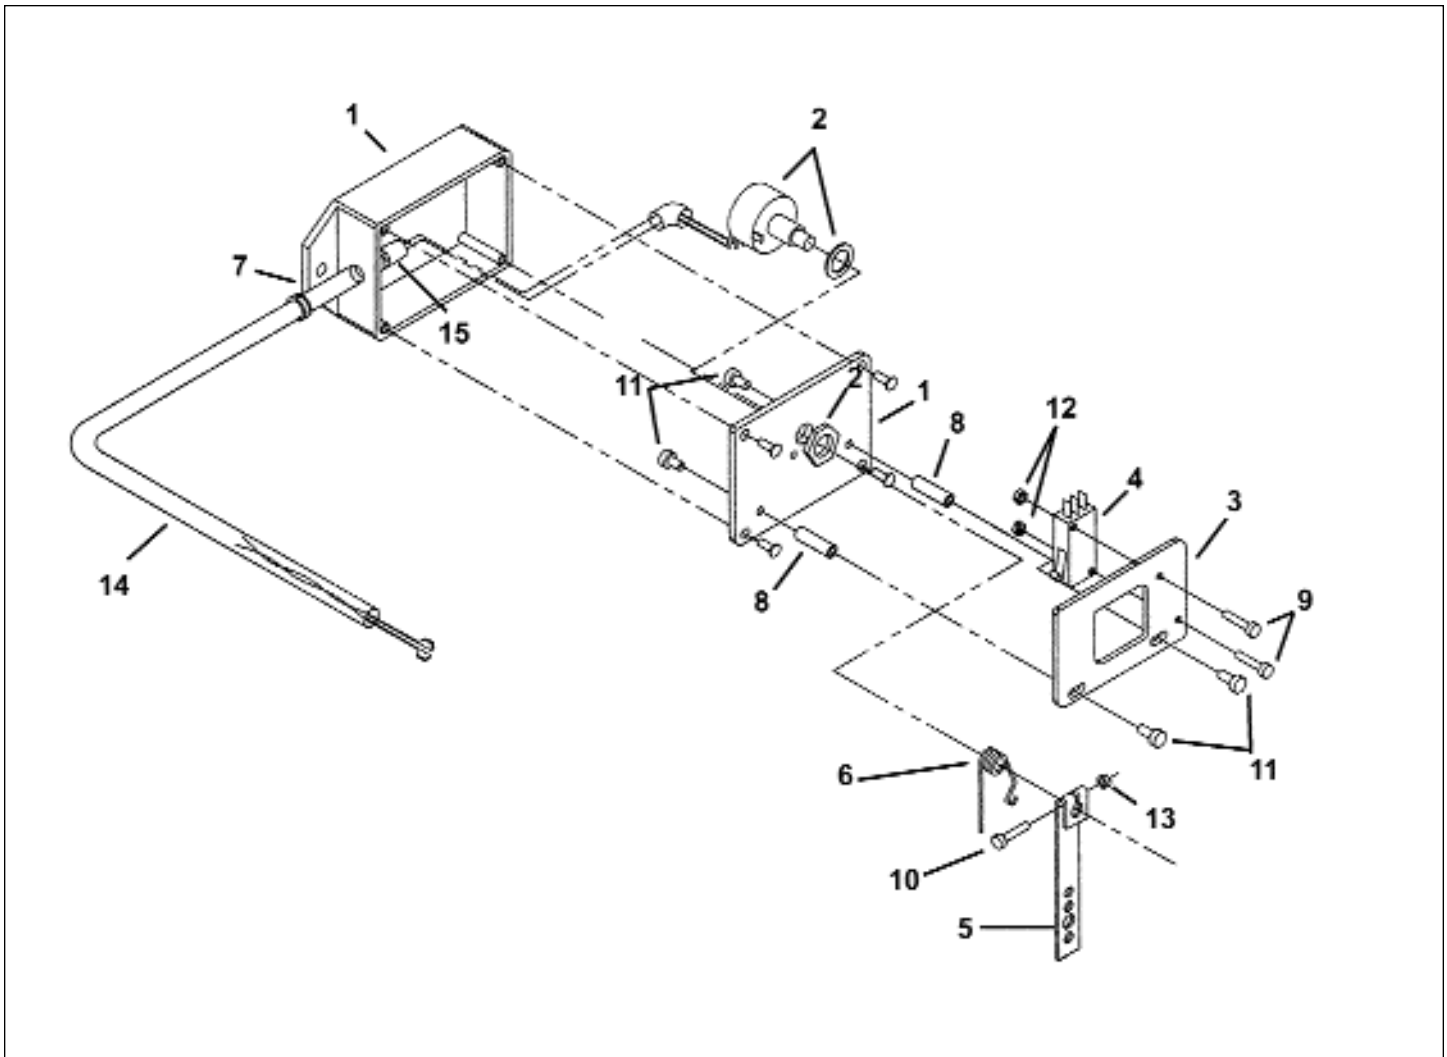

Figure 21 - Speed Switch Assembly
Note: Refer to Figure 21, page 8-22.
1. Remove two screws (Figure 21, #11) holding micro switch plate to support spacers.
5. Remove nut holding pot switch into cover, and remove pot switch. See Figure 21#2)
4. Install spacers (2) to outside of pot box cover.
6. Install return spring and speed switch lever to pot switch. See Figure 21. Do not torque clamp screw until adjustment has been completed.